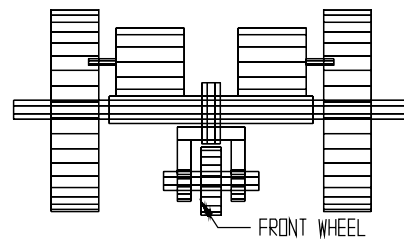

FIG. 24
Step 6. In the Front View, click the red polygon of the front wheel and press ENTER, **Fig. 24**.